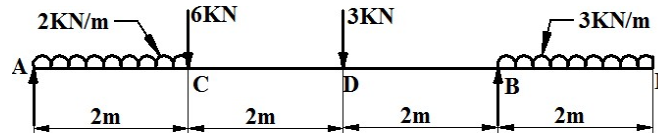

Figure 26
16. For the beam shown in *Figure 26*. Draw shear force and bending moment diagram and indicating the principle values (June/July 08)